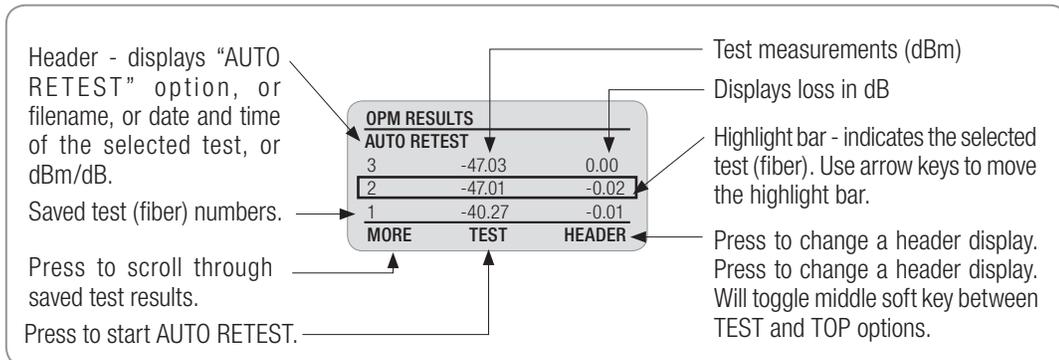

Figure 5-3. Reviewing Saved Test Results.
- From the MAIN MENU screen, highlight and SELECT the REVIEW RESULTS option to access the OPM RESULTS screen (Figure 5-3).